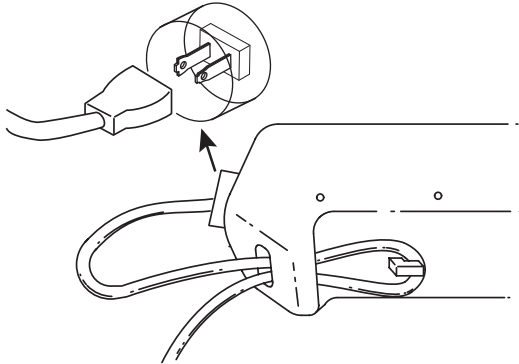

Fig. 6
2. Push the loop through the opening and move it onto the hook on the motor housing (Fig. 6).